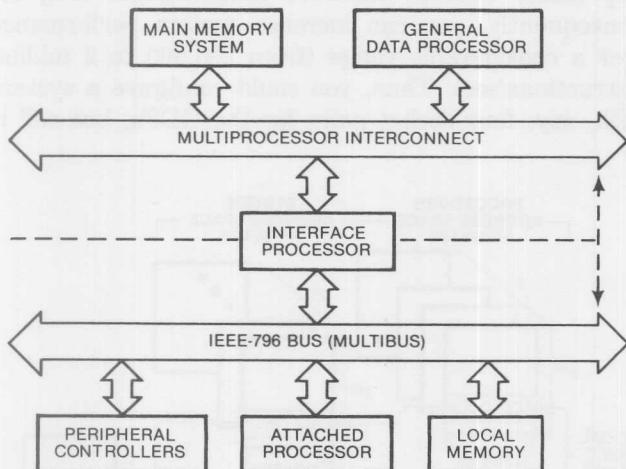

Fig 7—With the aid of the Multibus, a satellite subsystem (attached processor) can independently handle all I/O.
Turning now to the 432's I/O communication, we note that the 43203 interface processor (IP) permits a satellite subsystem to act as an attached processor (AP) that independently handles all I/O activity (Fig 7). Such an AP is an independent microprocessor, configured from Intel's line of midrange μ Ps, peripheral controllers and Multibus-compatible devices.